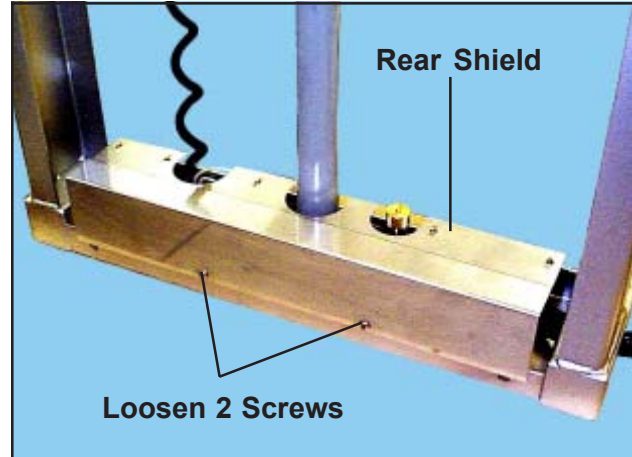

Figure 29. Removing the Rear Shield
6. With a Phillips screwdriver, loosen the two screws on the rear shield (Figure 29).
27. Replace the rear shield and tighten the two screws (Figure 29).